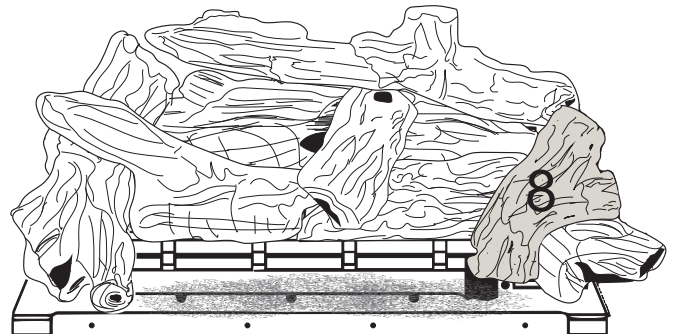

Figure 9 - Log #8 Placement
9. Hold Log #8 with the branched end away from you. Place log #8 by positioning the pin locator hole on the bottom of the log over the pin on log #1 and by rotating the log counter clockwise to match the notch on the log with the first tine on the grate. See Figure 9.